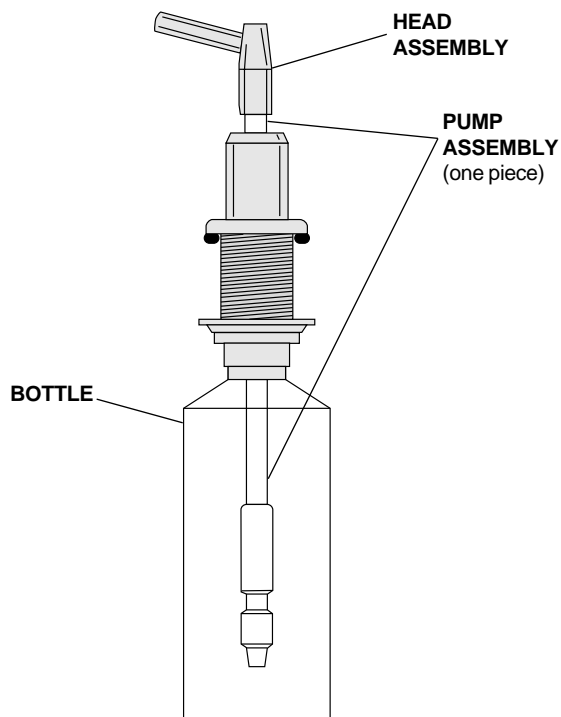

FIGURE 33
1. Screw the bottle onto the pump assembly and press the head assembly onto the pump assembly (see Figure 33).